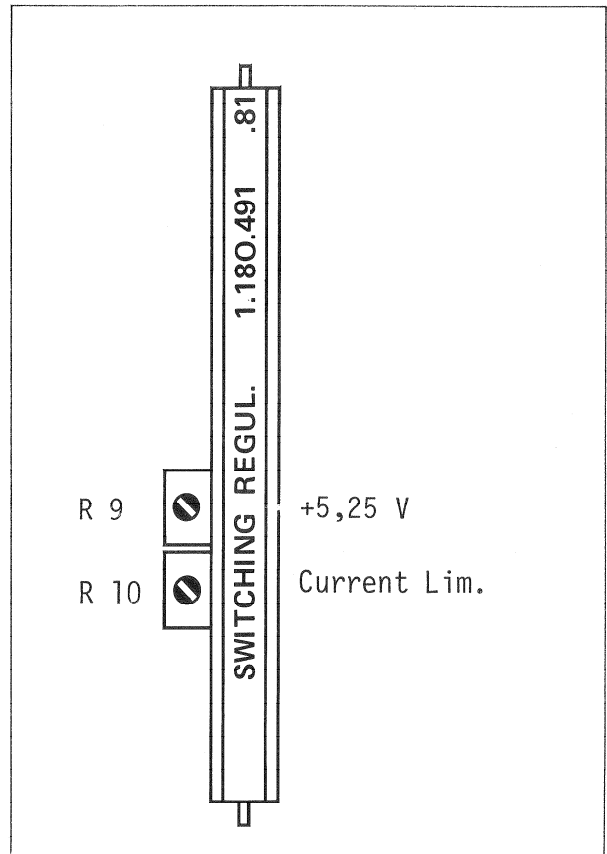

Figure 4
- Turn potentiometer R10 (see figure 4) until the reading at the voltmeter begins to drop. Turn back potentiometer until the voltage has regained its original value. Whistling of the switching regulator should stop.